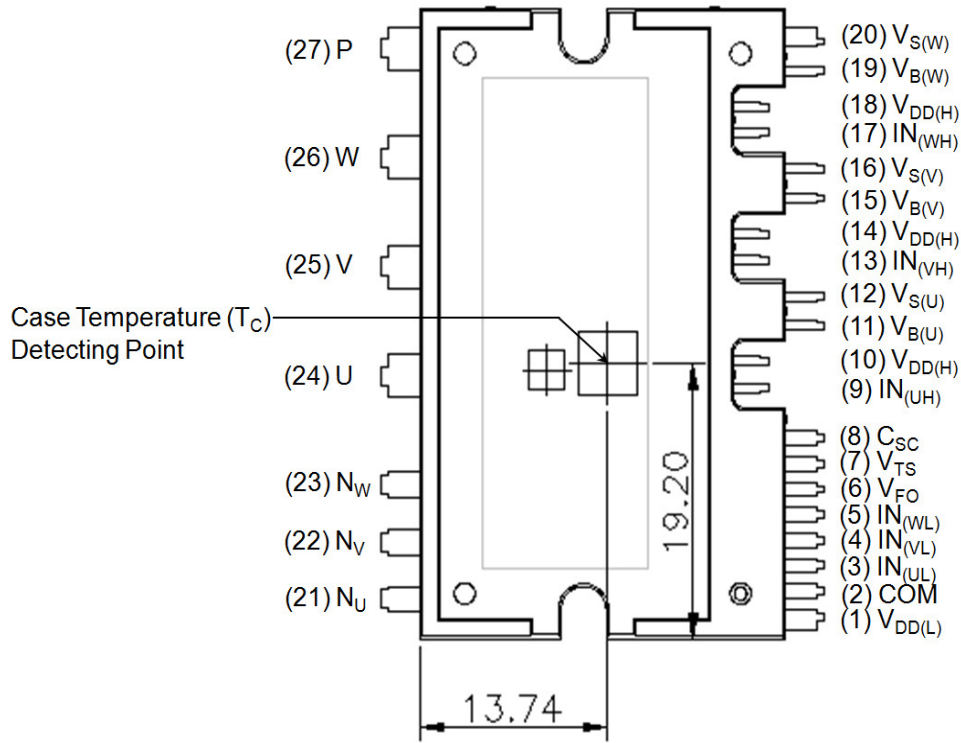

Figure 1. Top View
5. For the measurement point of case temperature (T_C), please refer to Figure 1. DBC discoloration and Picker Circle Printing allowed, please refer to application note AN-9190 (Impact of DBC Oxidation on SPM® Module Performance).